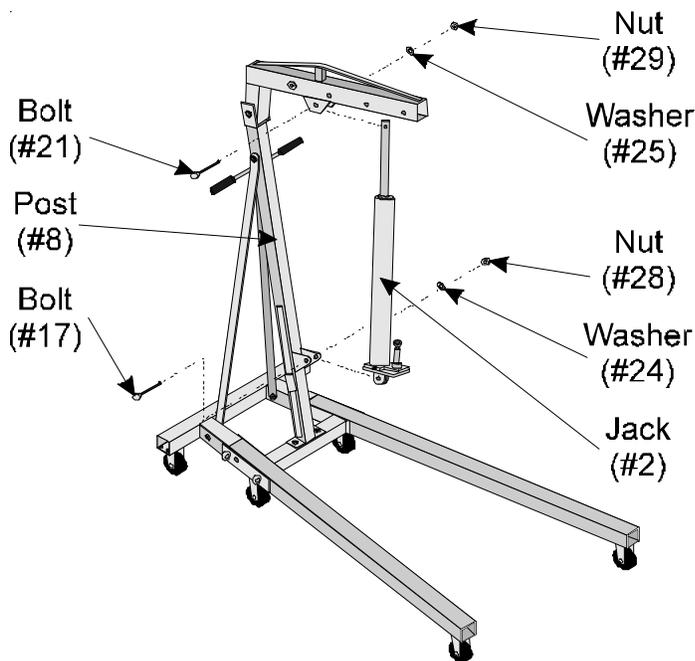

Figure 5 — Assembling the Jack to the Post and Boom
Step 6: Assemble the lower end of the JACK (2) to the POST using the BOLT (17), WASHER (24) and NUT (28) as shown in Figure 5.
Step 7: Secure the top of the JACK to the BOOM using BOLT (21), WASHER (25) and NUT (29). (See Figure 5).